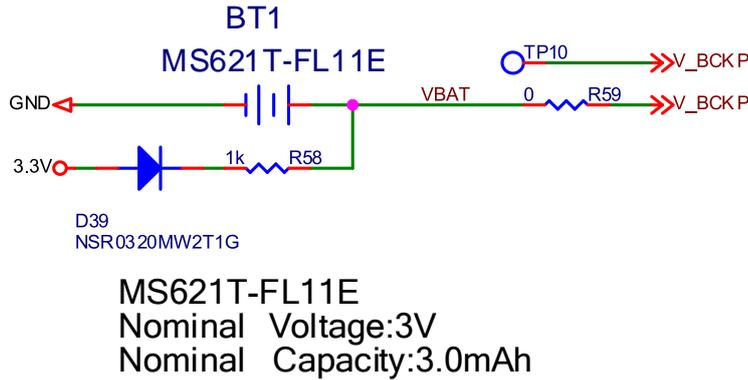

Figure 3-5 Backup Power Circuit
- When the backup battery supplies power to V_BCKP, the battery charging circuit should be designed to prevent reverse current to ensure that the battery only supplies power to V_BCKP and the current does not flow back into the 3.3 V power domain, as the D39 shows in Figure 3-5.
resistor should be added, as the R58 shows in Figure 3-5.